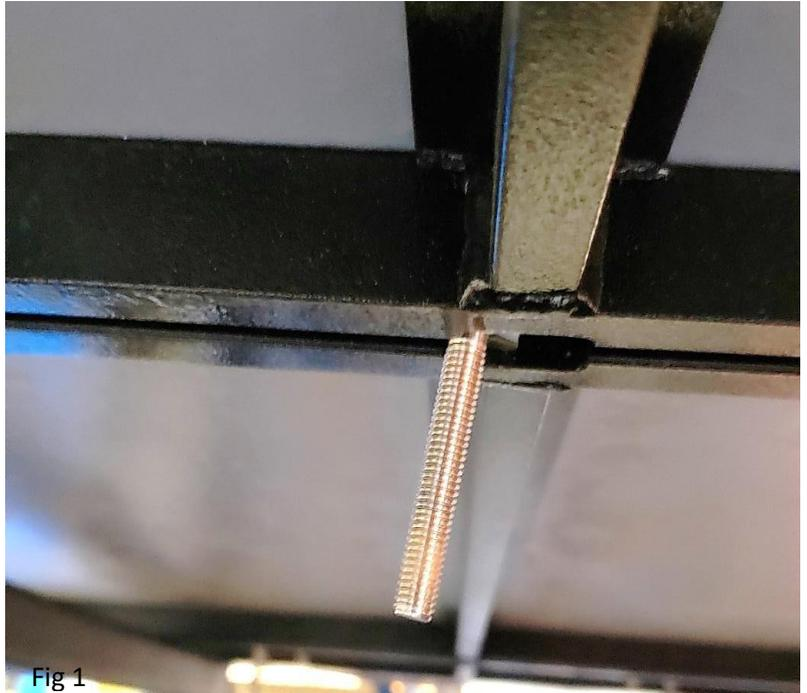

Fig 1
**Step 1.** Install the square head carriage bolts into the access holes on the tent base. Do this for both sides of the tent base, 4 bolts will be used per side. Position bolts so there is one bolt on each side of the cross bar that it will be mounted to. Fig 1.
**Step 1.** Open all eight(8) stainless steel latches. Then secure latch making sure the hook is disconnected. Fig 1. This ensures that the hook does not grasp on the catch when trying to open the tent.